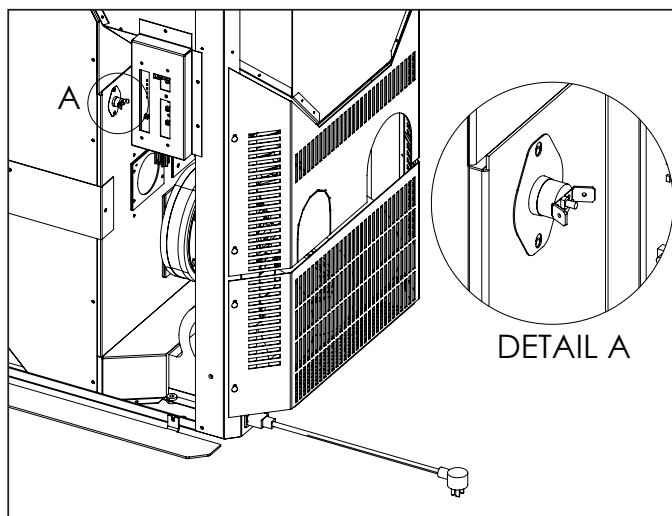

Figure 22: High Limit Switch Detail
- The grey wires will be wired in line with the High Limit Switch located at the back of the hopper. Disconnect one of the orange wires already attached to the High Limit, now attach one of the grey wires from the HDK to the wire you just disconnected. The other grey wire from the HDK will connect to the High Limit Switch, see figure 22 for high limit location.